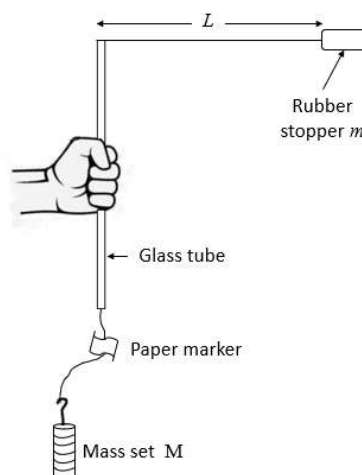

Figure 1
1. Tie one end of the nylon string to the rubber stopper. Pass the other end through the glass tube and paper marker, and tie it to the mass hanger as shown in Figure 1.